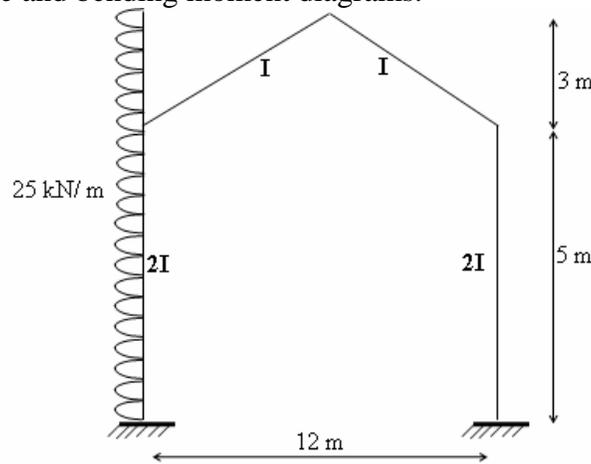

Fig.1
1. Analyze the frame shown in Fig.1, using moment distribution method and draw the shear force and bending moment diagrams. [16]